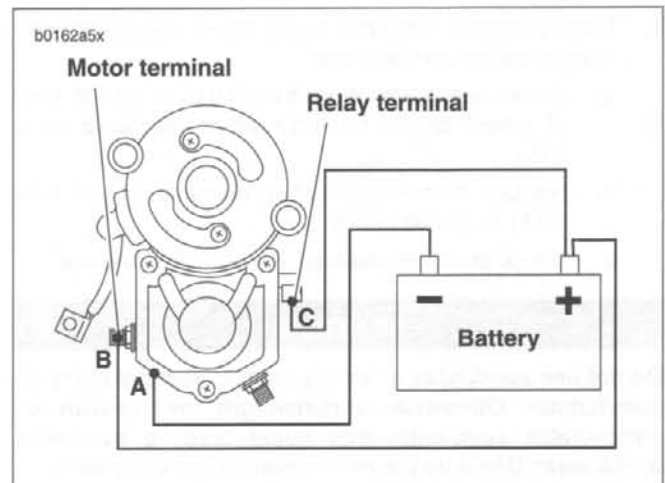

Figure 5-13. Hold-In Test
1. See Figure 5-13. With test leads still connected in the manner specified in the previous SOLENOID PULL-IN TEST, **disconnect solenoid motor terminal/battery negative test lead (B) at negative battery post only; reconnect loose end of this test lead to positive battery post instead.**